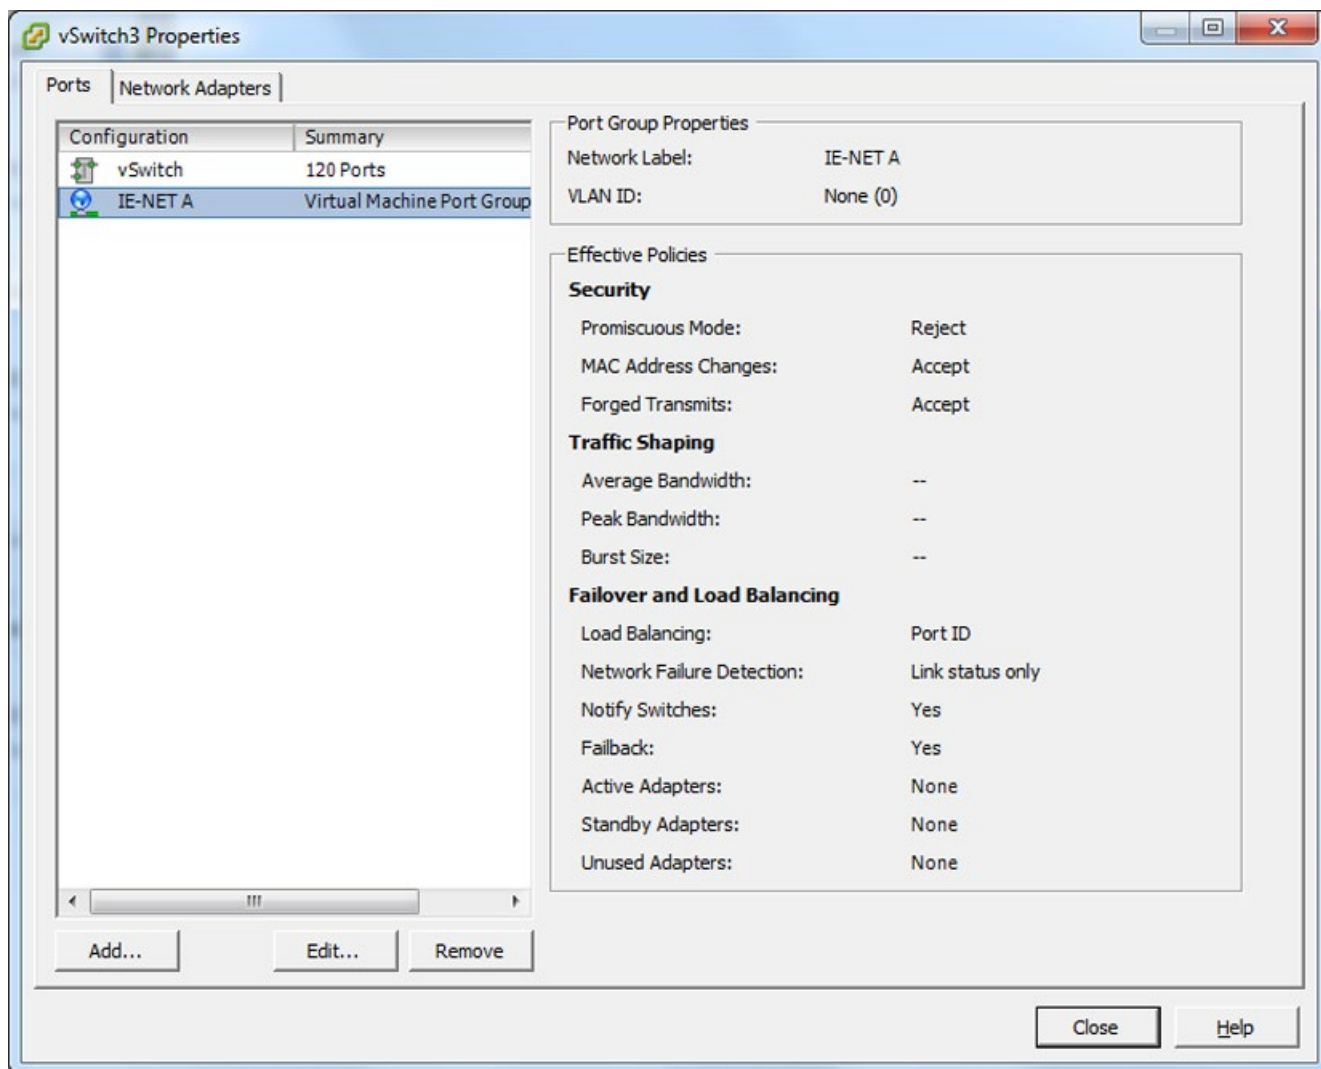

Figure 4-1 Selecting the port group in the properties of the vSwitch
6. In the menu on the left, select the port group for the created network (the settings can be seen in the right-hand column, see Figure 4-1).